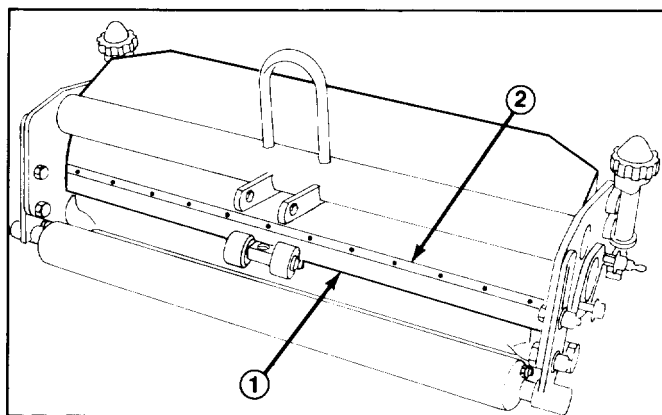

Figure 13
5. To reinstall, slide bedbar into position between sideplates making sure each end of bedbar is under shield (Fig. 13).